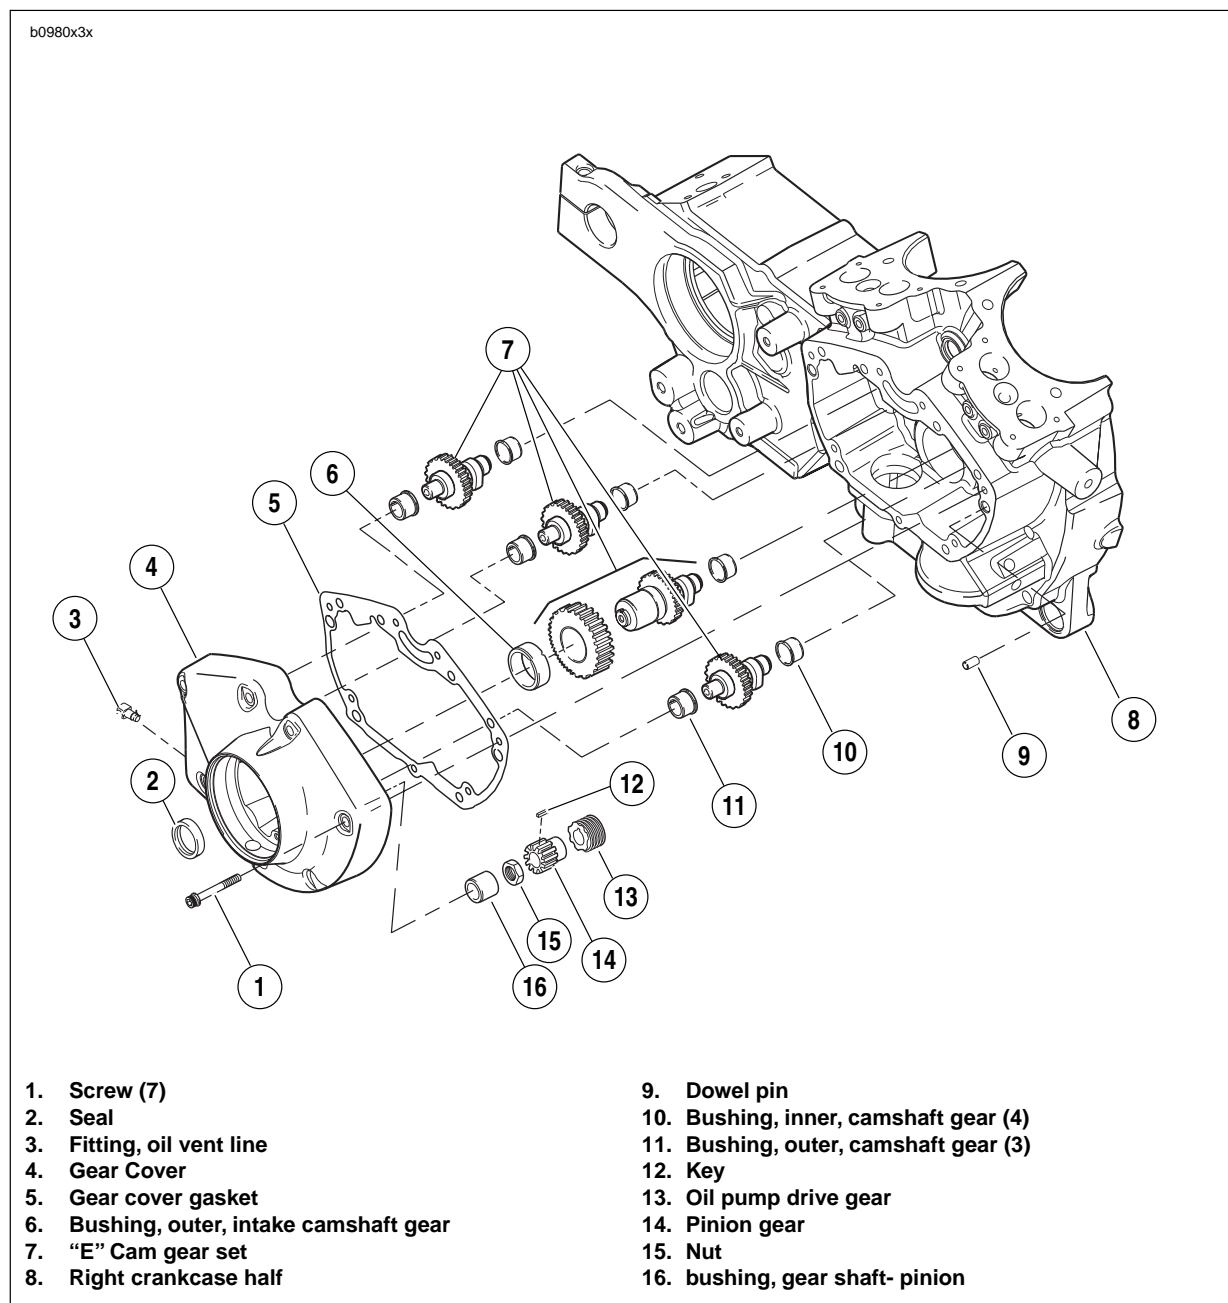

Figure 3-126. Gearcase Cover and Cam Assembly
1. See Figure 3-126. Thoroughly clean area around gearcase cover and tappets. Blow loose dirt from crankcase with compressed air.
2. See Figure 3-126. Install pinion nut.
3. See Figure 3-126. Liberally apply engine oil to bushings, shafts, and gears. Install all cam gears into bushings of right crankcase half, properly aligning timing marks of cam gears and pinion gear.
4. See Figure 3-126. Install a **new** seal and **new** dry gear cover gasket on crankcase.